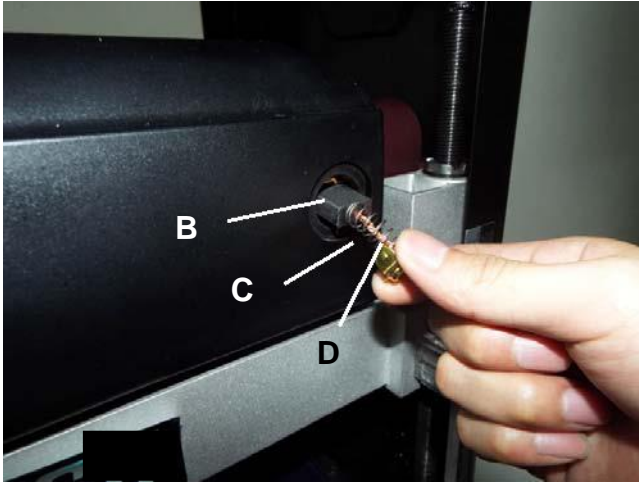

FIG 15
2. Once the brush has been removed, inspect the carbon (B), the spring (C), and the wire (D). SEE FIG 15.